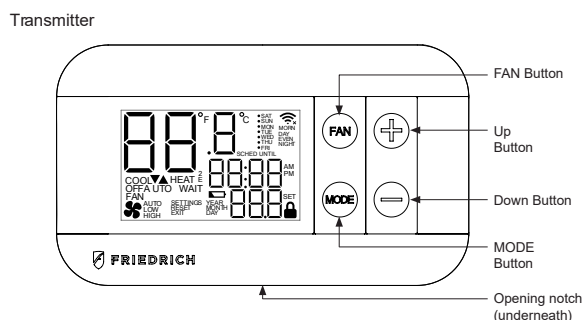

Figure 515( Thermostat Transmitter)
2. At the Transmitter put thermostat in OFF mode and hold FAN and DOWN buttons for 10 seconds. (Figure 515)